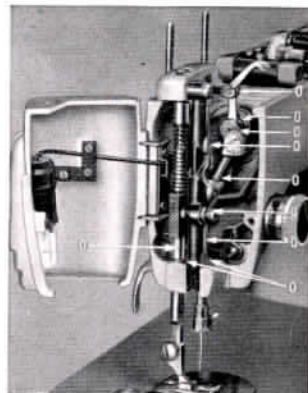

Fig. 43:
1. The Head (Fig. 43) – access to the parts is gained after opening the hinged face cover plate.